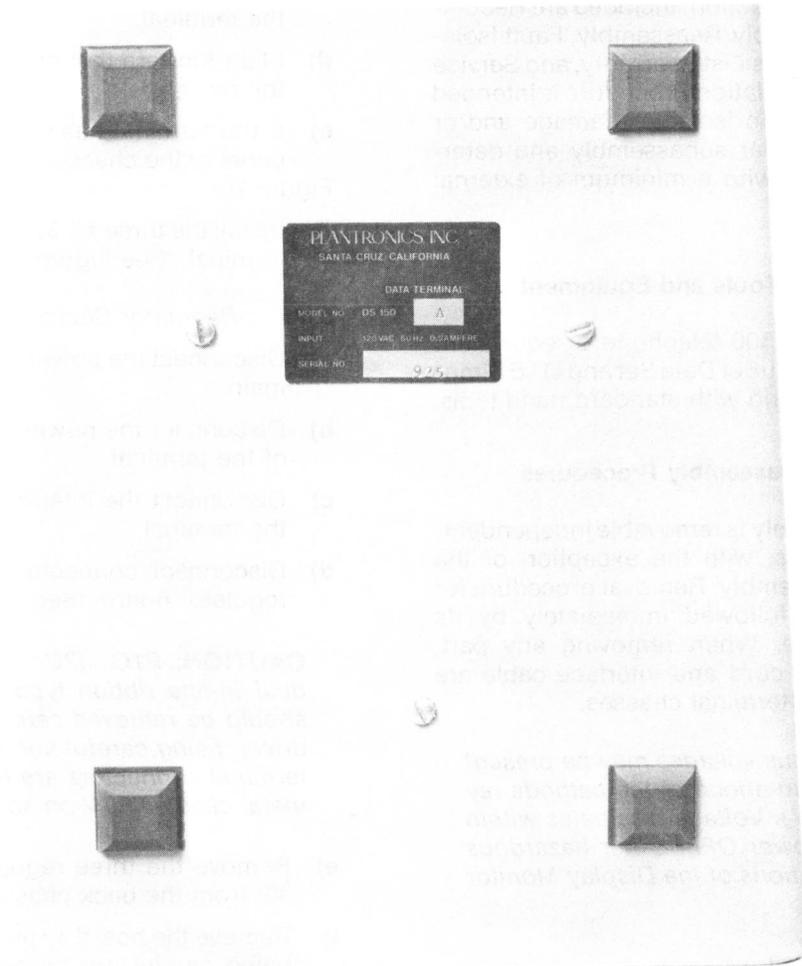

Figure 19, Terminal Bottom View
- d) Remove the three #6-32 screws from the bottom of the terminal. (See Figure 19)
- f) Install the three #6-32 screws on the bottom of the terminal. (See Figure 19)